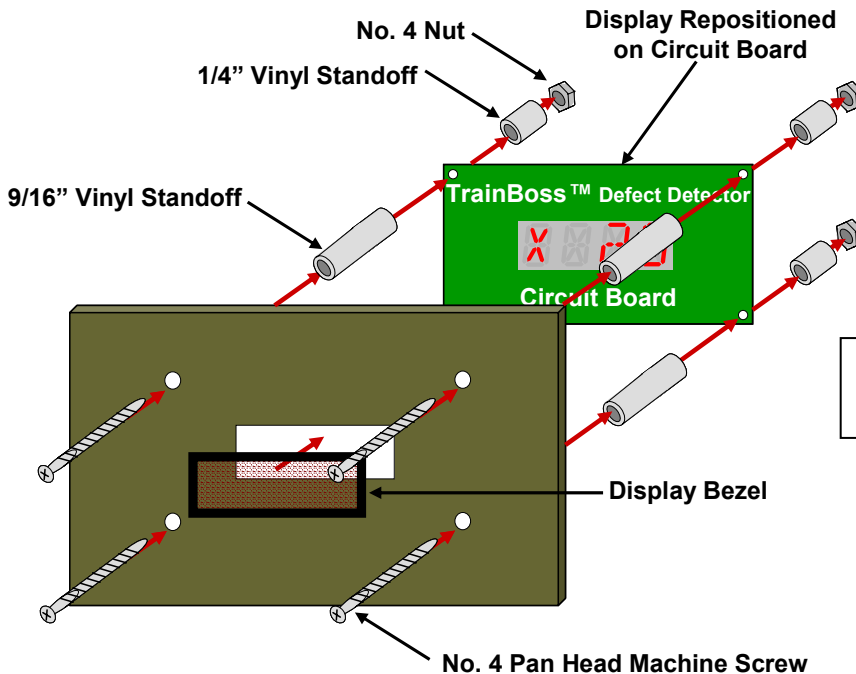

Figure 4: Visual Display Installation: requires Display Bezel (not included)
6. Install the Defect Detector circuit board as shown in **Figure 4**. Slice 9/16" and 1/4" standoffs from the vinyl tubing provided. The screw holes in the circuit board are for No. 4 pan-head screws (not included).